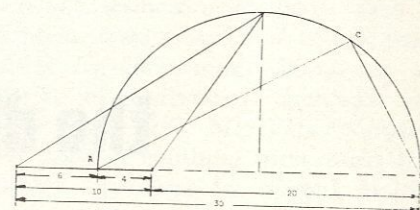

FIGURE 2.
2) A construction similar to the one shown in Figure 2 will show that the locus of points of the vertex of this triangle fall in a circle. That is, the vertices at point A represent the shortest sides and that at point B the longest. Point C is constructed randomly, and angle ACB is a right angle. The radius of this circle is 12" and so is the height of the tallest possible triangle.